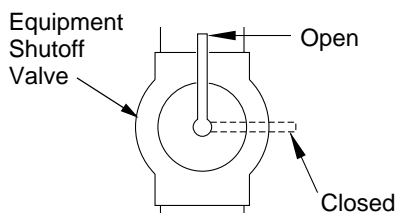

Figure 25 - Equipment Shutoff Valve
1. Close equipment shutoff valve (see Figure 25).
1. Open equipment shutoff valve (see Figure 25).